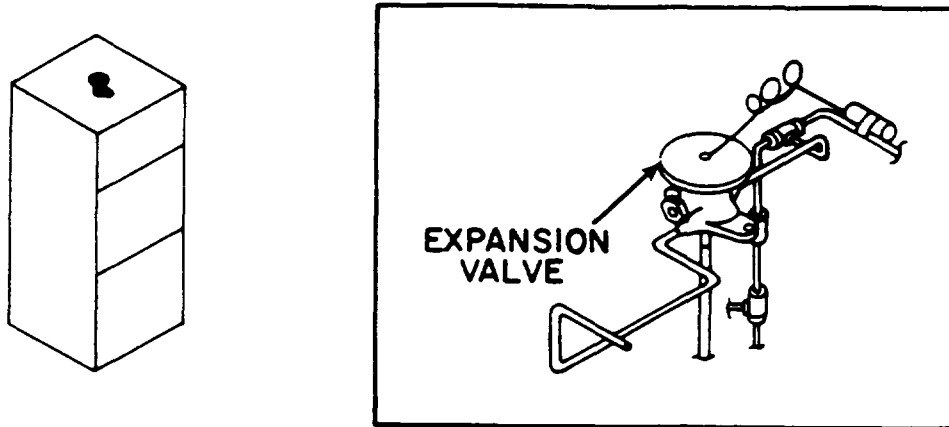

Figure 5-17. Expansion Valve.
- a. INSPECTION. See Figure 5-17.